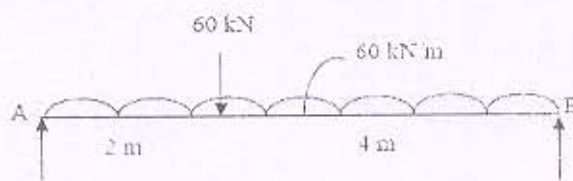

Figure 10
- Draw shear force and bending moment diagrams for the beam shown in Figure 10.